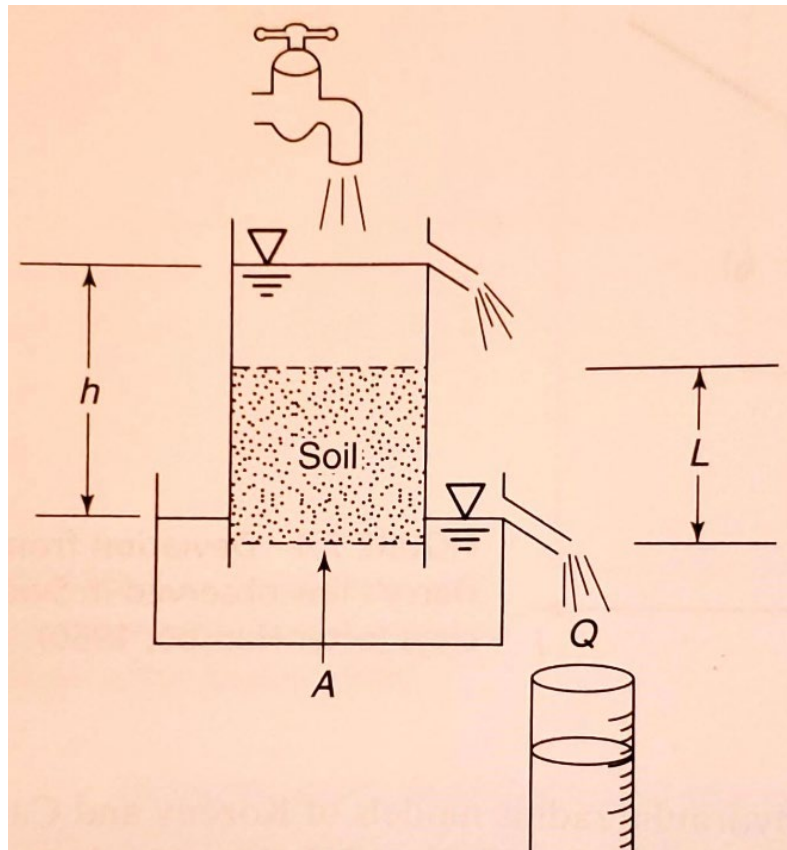

Figure 6: Permeameter for Question 6 (not to scale).
Figure 6 shows a cylindrical permeameter that was used to conduct a constant-head permeability test on a sample of clean sand. The sample had a diameter (D) of 10 cm and a length (L) of 20 cm. The flow rate (Q) during the test was $2 \text{ cm}^3/\text{s}$ for a water level difference (h) of 25 cm. The sand had a saturated density (ρ_{sat}) of 1.8 g/cm^3 during the test. You can assume a solid density (ρ_s) of 2.65 g/cm^3 for your calculations.
- Estimate the time needed for a contaminant or a conservative tracer to move across the sample shown on Figure 6 during the permeability test (5 points)